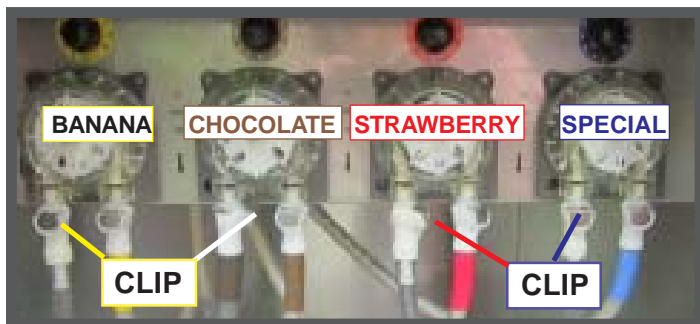

Figure 1 Removal of syrup lines to bottles
2. With syrup pickup tube in syrup bottle, disconnect syrup hose from pump by pushing on metal clip of the connector. (see figure 1). Slowly pull pickup tube out of syrup bottle allowing syrup from the tube and hose to drain back into bottle. Place stainless steel pickup tube in an empty bucket. Repeat for each flavor and take hoses to sink and flush with hot water (122°-140°F or 50°-60°C). Fill the bucket with hot water and
- e. Disconnect hose from the pump by pushing on the metal clip of the connector (see figure 1). Remove pickup tube from bucket of sanitizer, draining sanitizer back into bucket. Reconnect hose to pump and place pickup tube into corresponding syrup bottle.